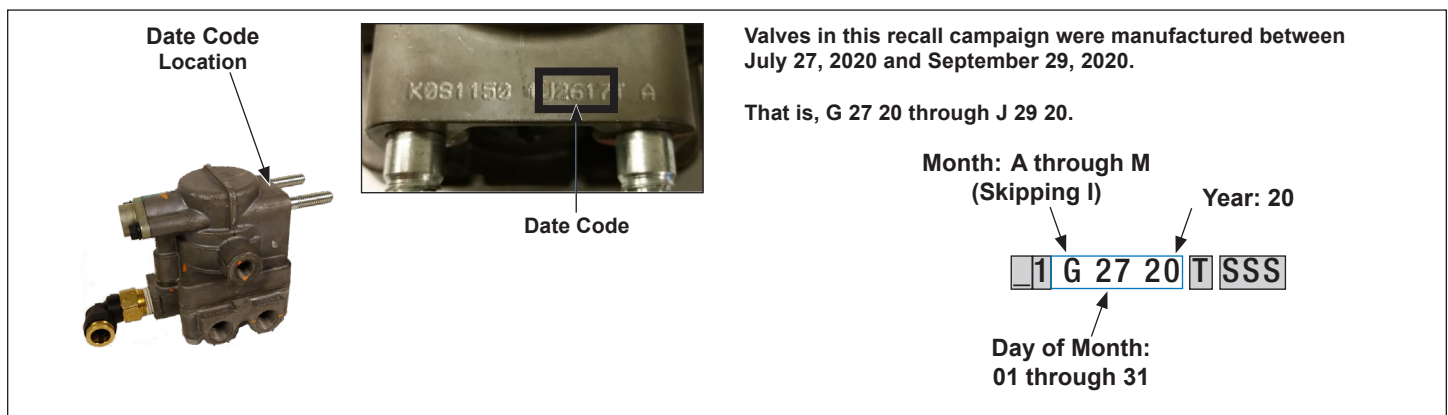

Figure 3 - SR-7 Spring Brake Modulating Valve Date Code Interpretation
1. See *Figure 3*. A potentially defective SC-3 single check valve that was purchased as part of an assembly with an SR-7 spring brake modulating valve can be identified by the date code on the SR-7 spring brake modulating valve. If the SR-7 spring brake modulating valve has a date code that is any date between, and inclusive of, 7/27/20 and 9/29/20, the SC-3 single check valve falls within the recall parameters. The SC-3 single check valve needs to be replaced.
See *Figure 3*. A date code is stamped (not cast) on the SR-7 spring brake modulating valve body housing. Locate the date code – removing the paint coating if necessary – to read the code. Disregard the codes shown in gray in *Figure 3*. The portion of the date code that determines the date of manufacture is highlighted and can be interpreted as follows: